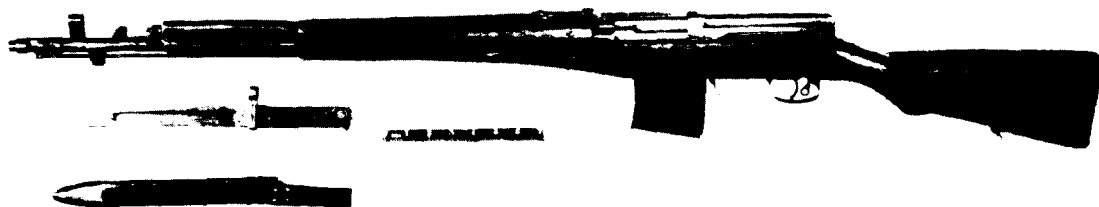
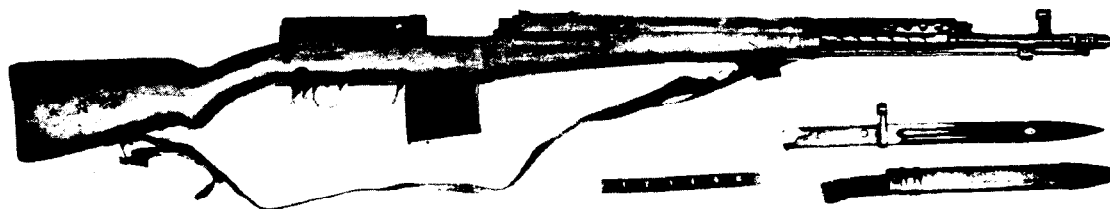

FIGURE 54. 7.62-MM SEMIAUTOMATIC RIFLE M1940 (SVT).
FIGURE 55. 7.62-MM AUTOMATIC RIFLE M1940 (AVT).
b. The Tokarev 7.62-mm semiautomatic rifle M1940 (SVT) (fig. 54), as well as the 7.62-mm automatic and semiautomatic rifle M1940 (AVT)3 (fig. 55), while considerably sturdier than the M1938, still proved rather flimsy for military use. Considerable difficulty was experienced in repair and maintenance of these weapons during World War II, and it is believed that they are no longer standard weapons.
a. The mechanism of the semiautomatic rifle M1940 (fig. 54) is identical to that of the M1938.
The automatic rifle M1940 (fig. 55) is identical in appearance to the semiautomatic rifle M1940. A notch has been cut into the right side of the stock, at the trigger guard opening, in a position that will permit the safety lever to swing to the right for automatic fire.